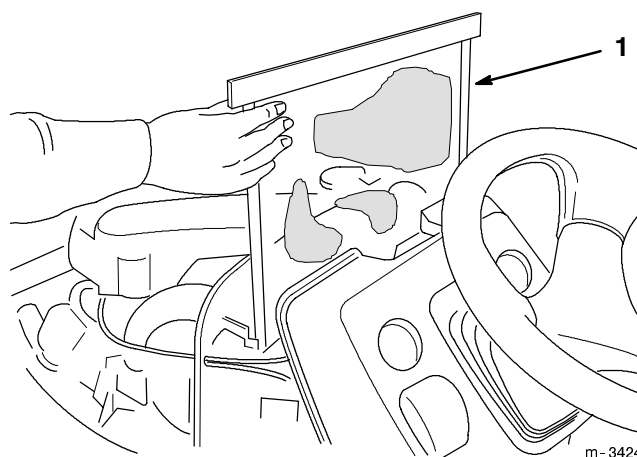

Figure 9
3. The radiator screen (Fig. 9) is located between the radiator and the dash in the tractor. To remove it, pull it up from its retention slot. Wipe or wash off all accumulated debris from the screen, then reinstall it.